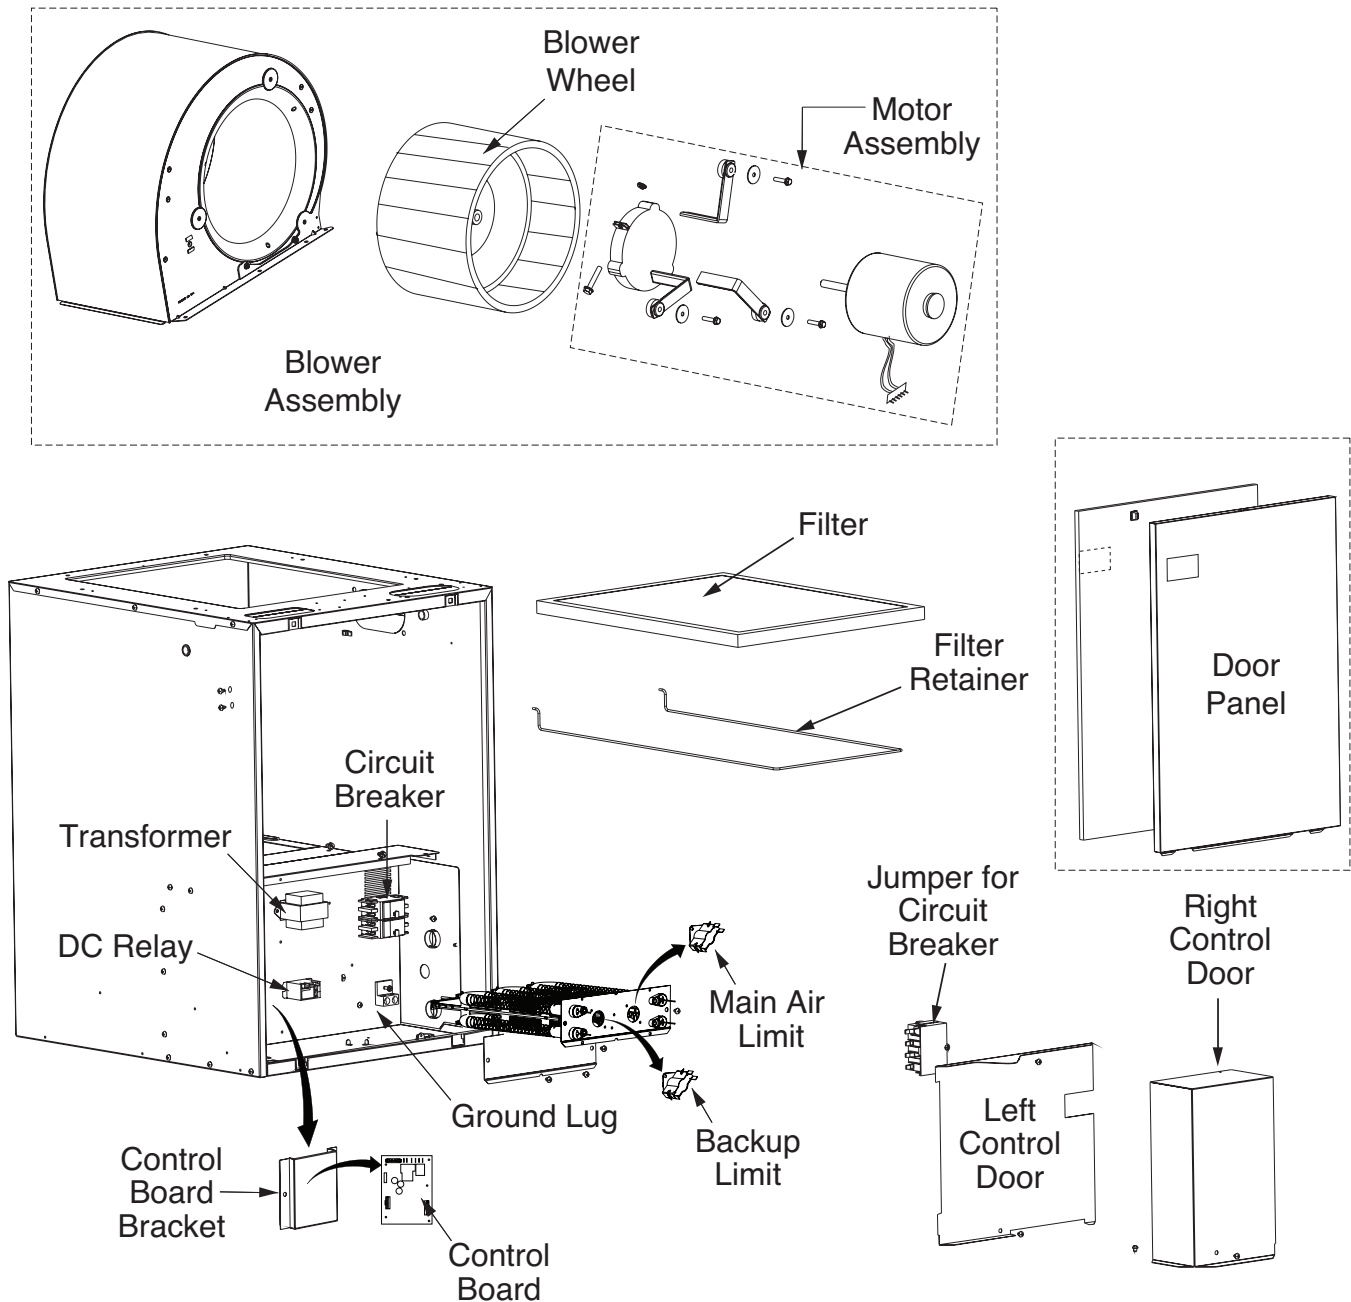

Figure 18. E7 Appliance Components
It is recommended that the line voltage (230 VAC) to the Appliance be supplied from a dedicated branch circuit containing the correct fuse or circuit breaker for the Appliance. For minimum circuit ampacity and maximum over-current protection, see Table 7 and Table 9. See unit wiring diagrams (Figure 25 \(page 21\), Figure 26 \(page 22\), Figure 27 \(page 23\), Figure 28 \(page 24\) & Figure 29 \(page 25\)) for wiring details. Electrical components are shown in Figure 18 \(page 13\). Supply circuit requirements are listed below:
7. Connect service ground wire(s) to grounding lug(s) provided. See Figure 18 \(page 13\). One ground is required for each supply circuit used.